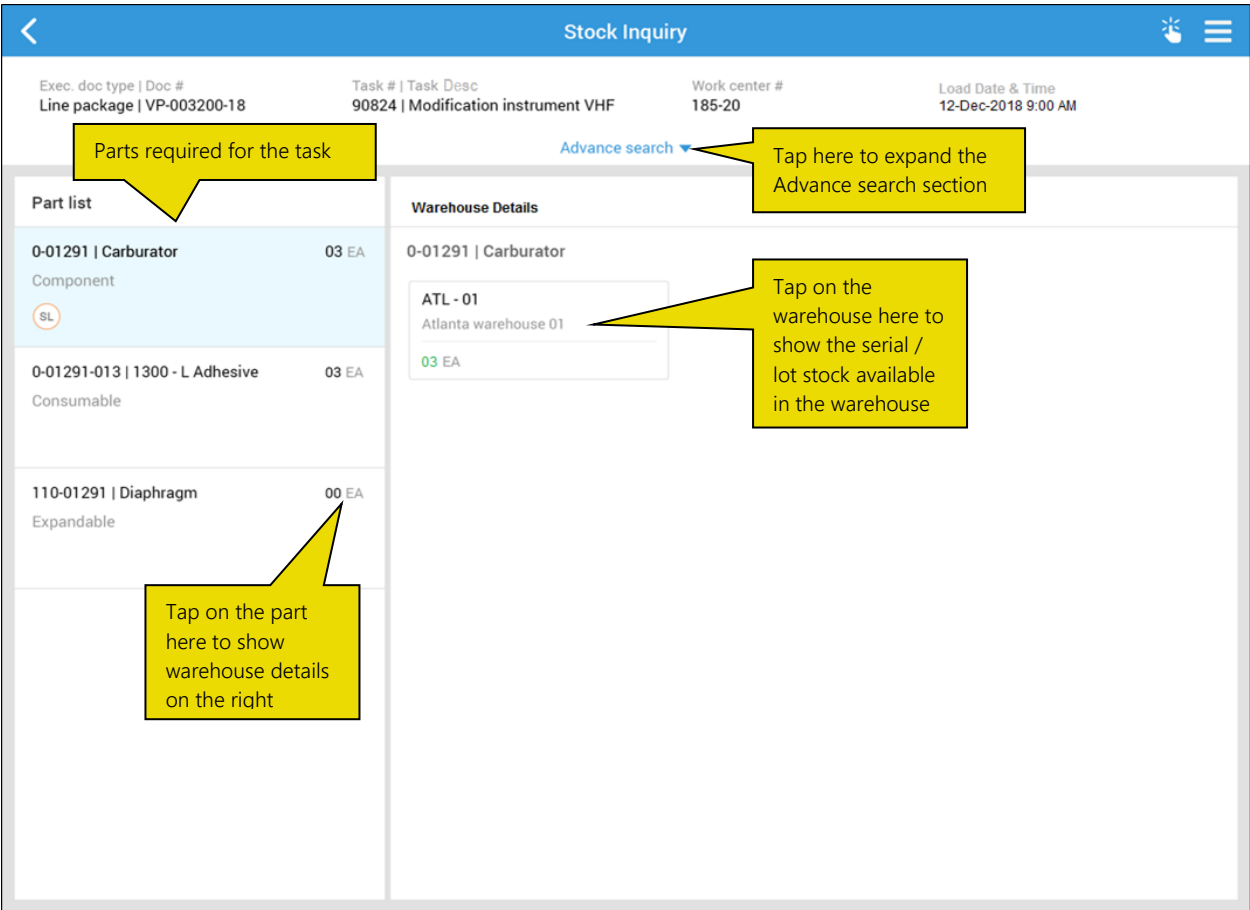

Figure 4.30: The Stock Inquiry screen launched as a link page
4. You can tap the  icon in the **Component Replacement** screen and the **View Part Requirements** popup to show the available quantities of the parts. See Figure 4.30.